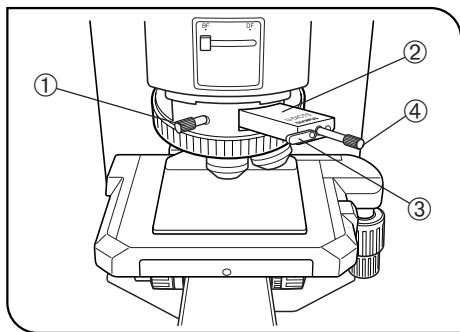

Fig. 12
(Fig. 12)
**3****Observation Method****(Fig. 12)**
1. Adjust the background contrast by turning the slider movement knob ④ on the DIC slider as described below. (Fig. 12)
#### 4 Switching to Brightfield/Darkfield Observation (Fig. 12)